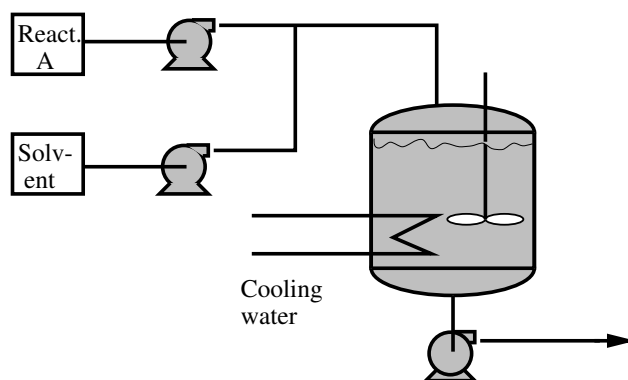

Figure 1.5 A process diagram for the reactor system in problem 1.7 (Extra).
- 1.7 (Extra)** A preliminary design of a reactor system is shown in Figure 1.5. The variables that should be controlled are the output flow, level, temperature, and concentration. Variations in the temperature, the concentration of the reactant and the concentration of the solvent are disturbances that may affect the system. Also the temperature of the cooling water may vary.